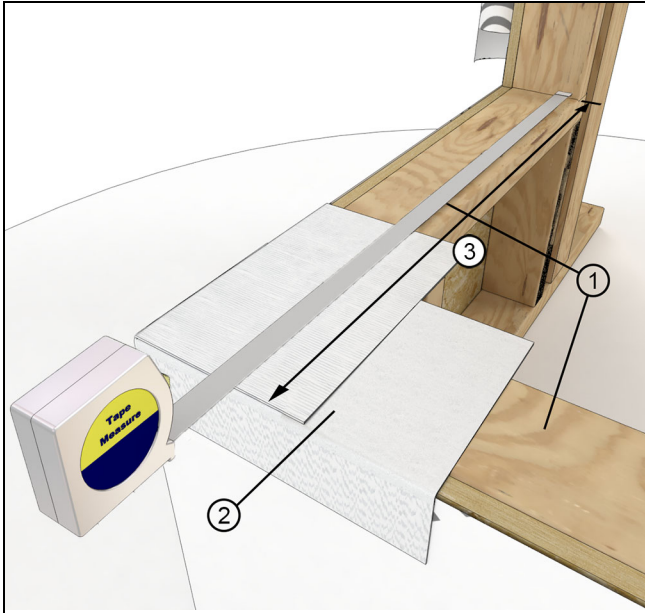

Figure 21
8. Cut another strip of flashing equal to the full length of one rough opening leg. Make the same folds as earlier. See Figure 21.